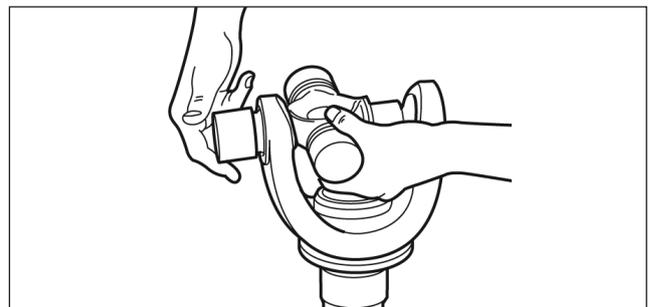

Fig. 4.14
7. Remove the round bushing. - Fig. 4.14